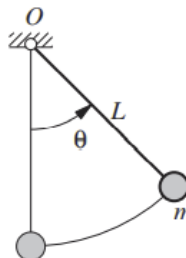

Fig 7.1
7. Derive the equation governing the free motion of a simple pendulum (Fig. 7.1), which consists of a point mass m suspended by a light string of length L .